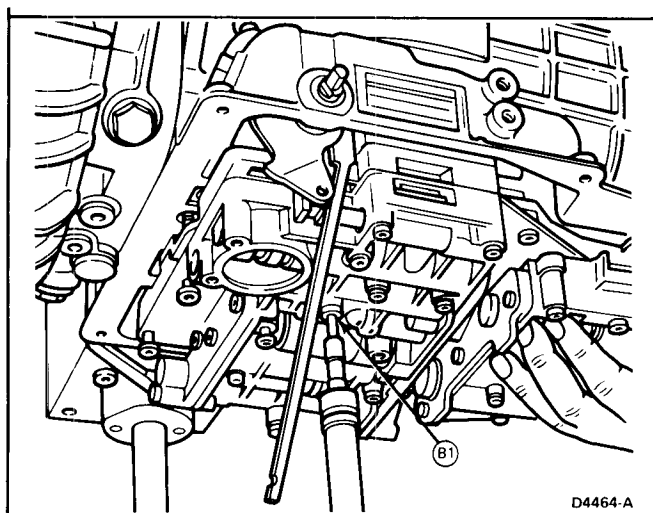

FIG. 7 Valve Body Alignment
Tighten bolt "B1" firmly, as shown in Fig. 7 to hold the valve body in place.
2. Install a new extension housing gasket on the case (Fig. 7).